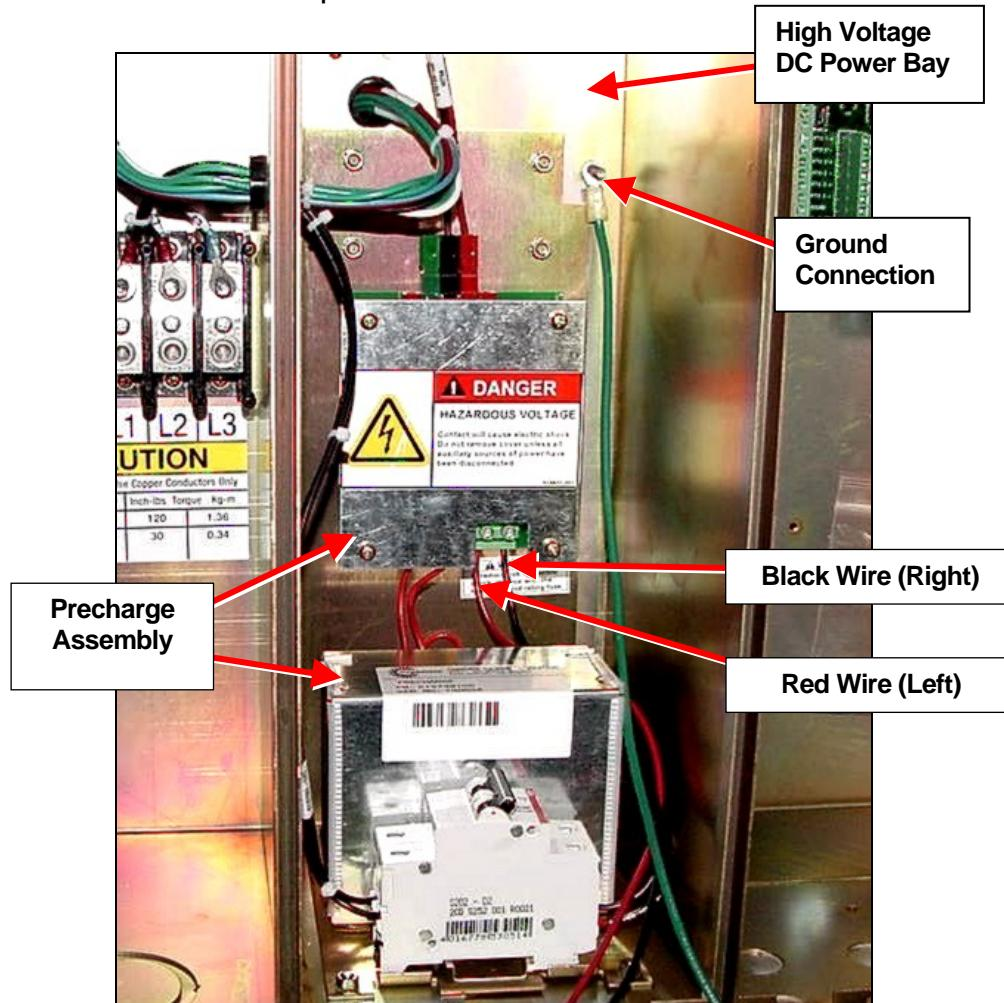

Figure 11. Connecting Conduit with 3 Wires to UCB (with Precharge)
Ensure that the red wire is connected to the left terminal and black wire is connected to the right terminal, and no bare wire is exposed after connecting the red and black wires, as shown in Figure 11.
- c. For UCBs with a Precharge Assembly in HVDC Bay: Cut away the Anderson connectors from the red and black DC power wires from the Air Pack. Strip each wire end by $\frac{1}{2}$ inch, twist the wire strands and tin the stripped area. Referring to Figure 11, insert the red wire fully into the left terminal and make sure that no bare wire is exposed (cut away as necessary) and tighten in place. Repeat for black wire but insert it into the right terminal. Connect the green wire to the ground stud in HVDC bay wall using an 8mm socket wrench.